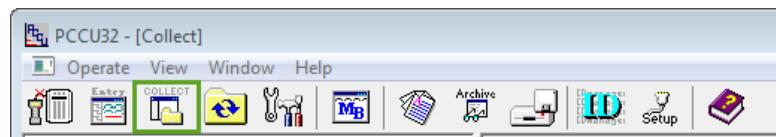
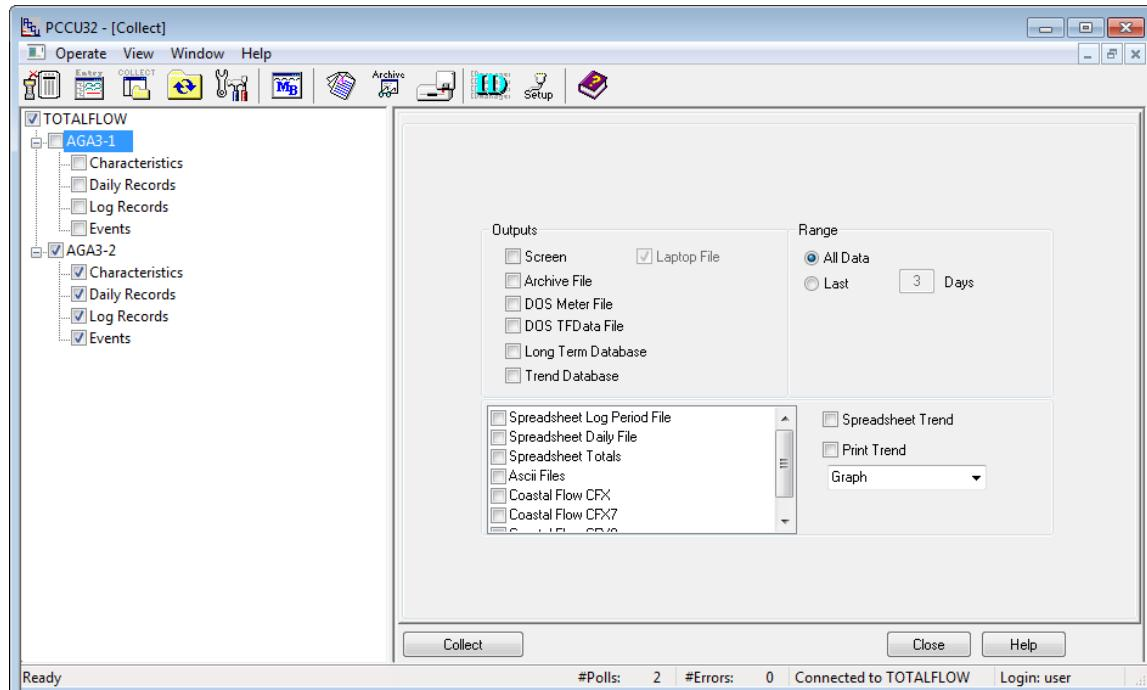

Figure 72: Collect icon in toolbar
Figure 73: Collect data screen
2. Click the **Collect** icon on the PCCU toolbar (Figure 72). The Collect data screen displays (Figure 73).